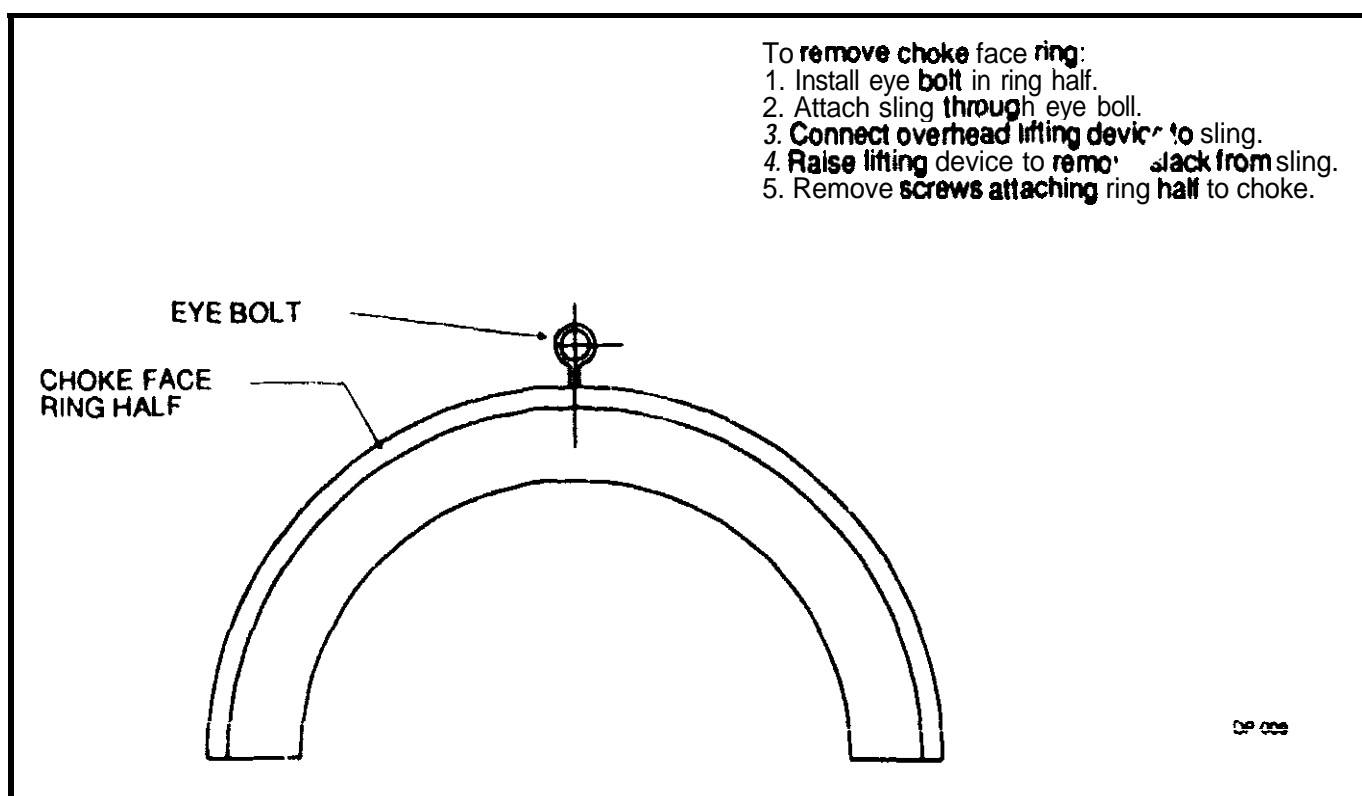

Figure 4-9
2. Remove the **clevis** pins from the rod couplers that connect the pneumatic cylinders to the choke. Rotate the choke approximately 45° to a position that places the lifting hole in the face ring on top. See Figure 4-9.
3. Install a **3/8-16 UNC eyebolt** in the **hole** provided in the top of the face ring, as shown in Figure 4-9. Attach a suitable overhead lifting device to the eyebolt. Each half of the face ring weighs 70 pounds.